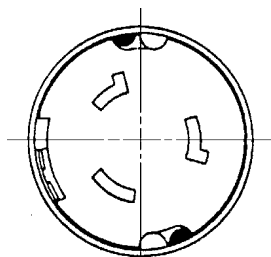

Fig. 2
9. Slide cover down to blade holder and align two indents inside of cover with the two grooves on molded body. Push rear cover onto body fully and rotate slightly. This engages the two indents into tow pockets on face of the blade holder to prevent removal. See Fig. 2 (Indents are shaded black).